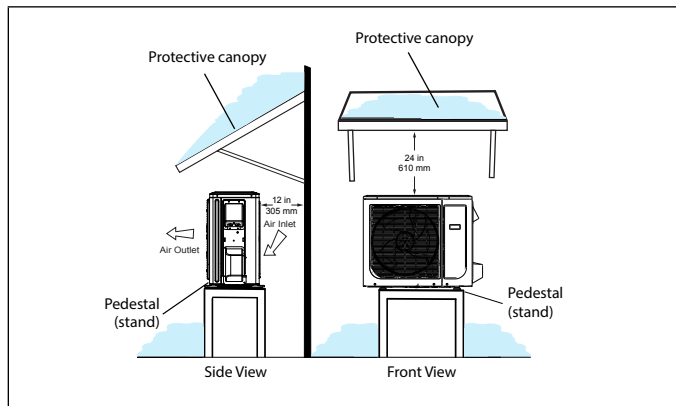
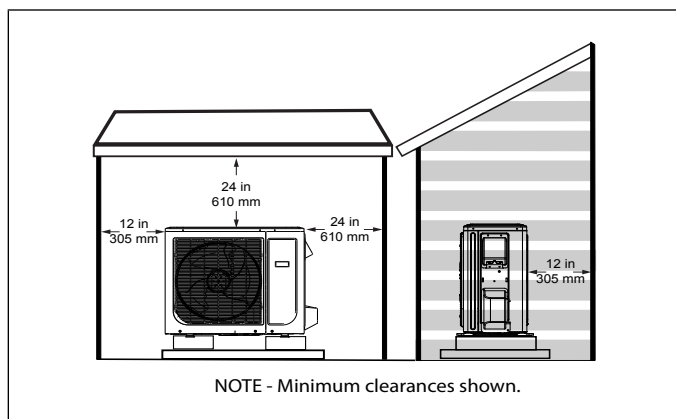

Figure 11. Outdoor Unit on Pedestal and Protective Canopy
Figure 16. Dog House-Style Shelter
- If the outdoor unit is subjected to prolong exposure to direct sunlight with temperatures over 100°F (38°C) a canopy is recommended as illustrated in “Figure 11. Outdoor Unit on Pedestal and Protective Canopy” or “Figure 16. Dog House-Style Shelter” on page 14
- Place unit away from overhanging roof lines which would allow water or ice to drop on, or in front of, coil or into unit. Construct a canopy as illustrated in “Figure 11. Outdoor Unit on Pedestal and Protective Canopy”
- Outdoor unit can be installed in a dog house style shelter as illustrated in “Figure 16. Dog House-Style Shelter”